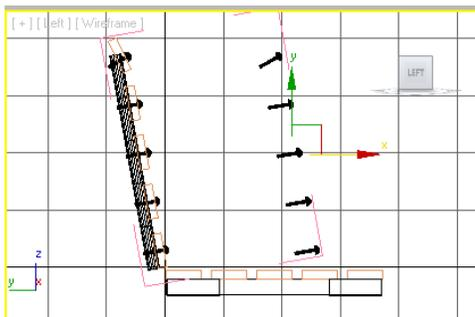

Figure 2-81 The *right side seat rivets* group in the Left viewport
5. Make sure *right side rivets* group is still selected. Now, create a copy of *right side rivets* and name it as *right side seat rivets*, as shown in Figure 2-81.